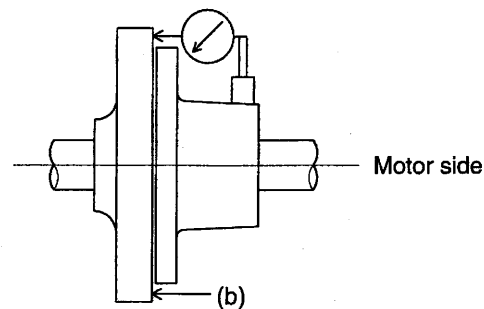

Fig. 20
- (1) As shown in Fig. 20, mount a stand to the coupling on the motor side, apply the dial gauge to flywheel (b) and rotate the flywheel to read the deflection of gauge pointer.
- (2) Measure at four points at 90° interval.
- (3) Insert the liner under the motor or the compressor, adjust so that the deflection of dial gauge pointer should not exceed 0.15mm.